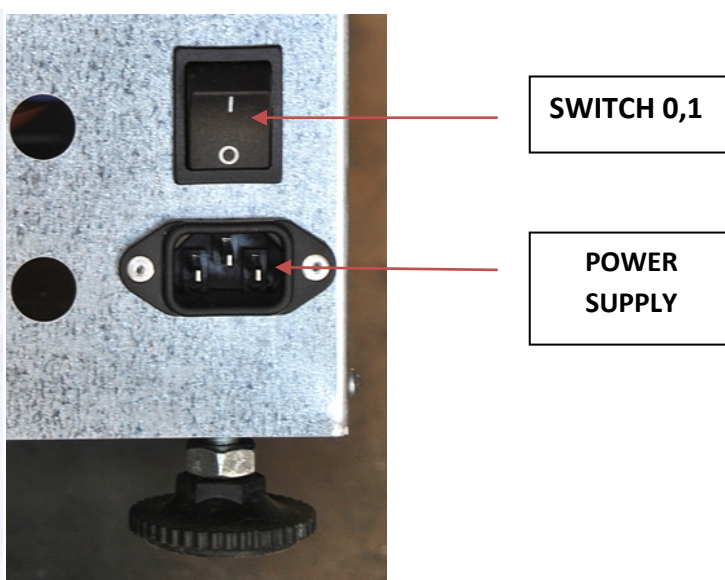

Figure 10
- Position switch in position 1 (figure 10).